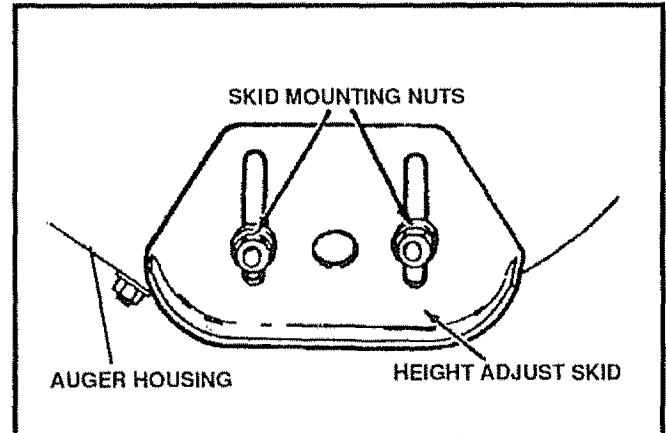

FIG. 22
This snow thrower is equipped with two height adjustment skids, located on the outside of the auger housing (See Fig. 22). These skids elevate the front of the snow thrower. For normal hard surfaces such as a paved driveway or walk, adjust the skids as follows:
- Loosen the skid mounting nuts (See Fig. 22) and adjust the skid up to bring the front of the snow thrower down. Re-tighten the mounting nuts.